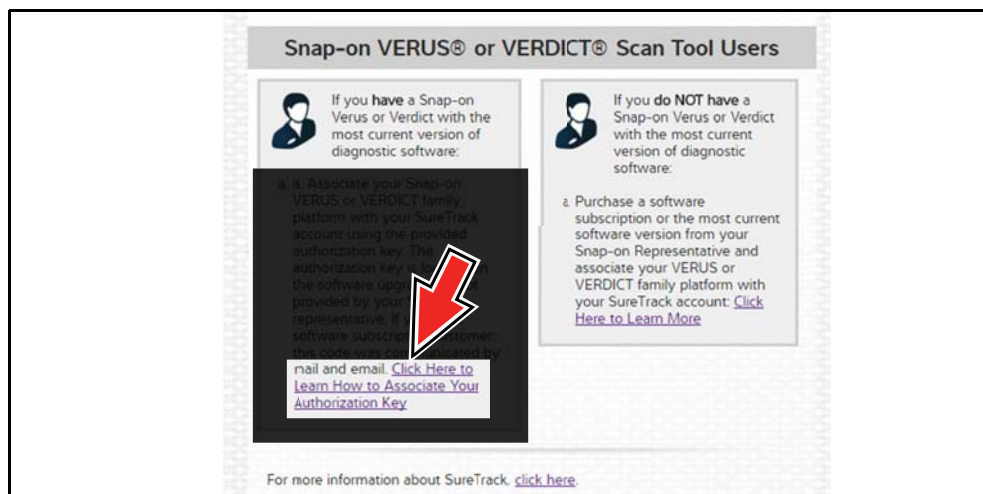

Figure 6-20
When your SureTrack account has expired, and you try to login you are directed to an information window (Figure 6-20).
2. Scroll down and select the link shown in (Figure 6-20)